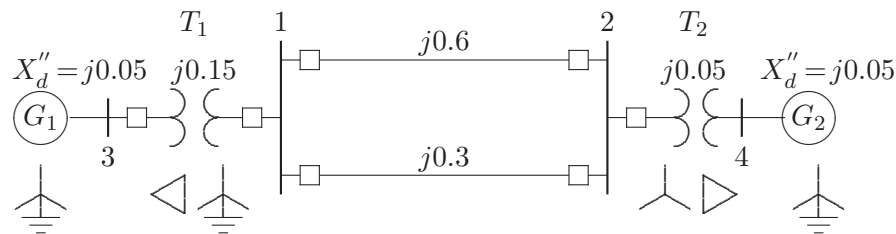

FIGURE 88
10.19. The positive-sequence reactances for the power system shown in Figure 88 are in per unit on a common MVA base. Resistances are neglected and the negative-sequence impedances are assumed to be the same as the positive-sequence impedances. A bolted line-to-line fault occurs between phases *b* and *c* at bus 2. Before the fault occurrence, all bus voltages are 1.0 per unit. Obtain the positive-sequence bus impedance matrix. Find the fault current, the three-phase bus voltages during fault, and the line currents in each phase. Check your results using the **zbuild** and **lfault** programs.